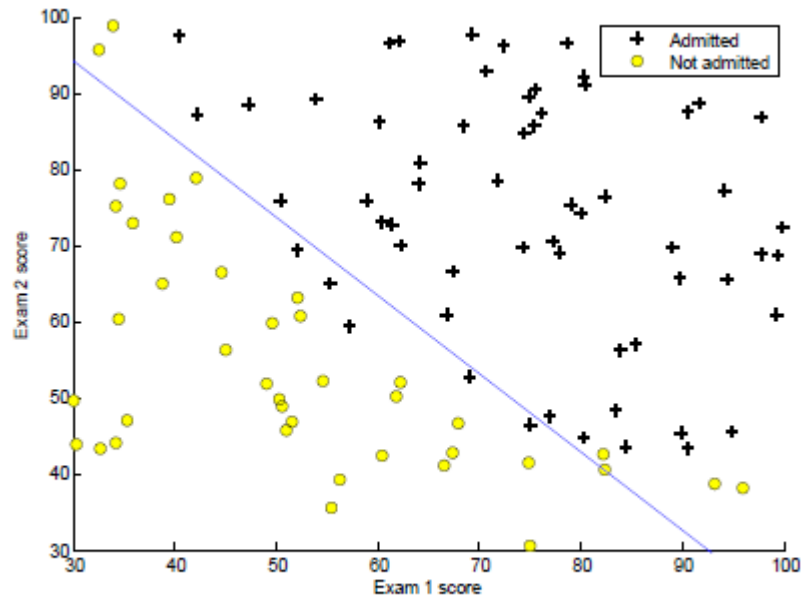

Figure 2: Training data with decision boundary
- Once `fminunc` completes, the remaining code will call your `costFunction` function using the optimal parameters of θ . You should see that the cost is about 0.203. This final θ value will then be used to plot the decision boundary on the training data, resulting in a figure similar to Figure 2. We also encourage you to look at the code in `plotDecisionBoundary.m` to see how to plot such a boundary using the θ values.